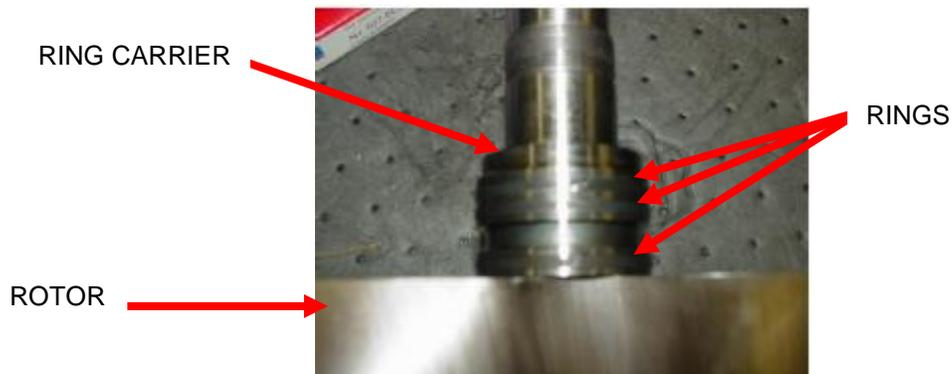

FIGURE 8-1 – INSTALL PISTON RINGS
6. Install the piston rings (15) into the 4 piston ring carriers starting with the ring closest to the rotor body. Ensure that the ring ends are hooked together properly. Offset the gaps in the rings 180 degrees. See Figure 8-1.
13. Install 2 dowel pins (19) into the drive end of the air cylinder.
15. Attach the bearing housing to the air cylinder using 6 socket head screws (21) and washers (20). The screws should have a nylok insert. Tighten the screws in an alternating pattern starting with the middle ones. Torque the screws to 38 ft-lb in 2 steps.
16. Heat 2 seal flingers (34) to 275 degrees F. After heating use a gauss meter to check the flingers for magnetism. The magnetic flux density must be less than one gauss. Use the flinger drive tool (EQ143806) to drive them into position on the ends of the piston ring carriers of the drive end of both rotors. Be careful not to damage the threads on the rotor shafts. Ensure each flinger is seated against the shoulder on the ring carrier and that it is recessed below the end of the ring carrier.